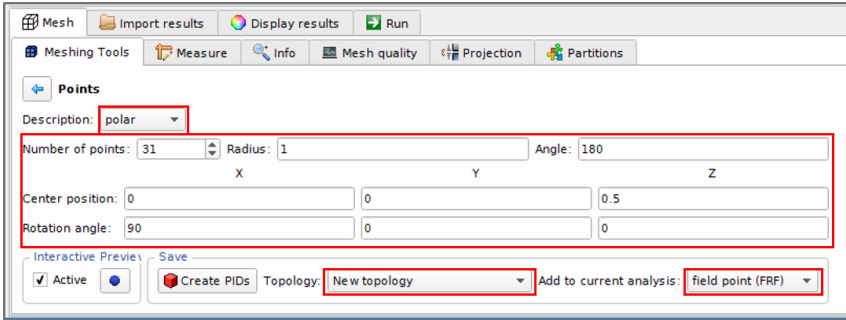

Figure 6.19: Create first series of field points
- *In the Toolbox, access to "Mesh" → "Meshing Tools" → "Points" → "Polar"; enter the parameters shown in Figure 6.19 and choose click "Create..." → "Field Points"*